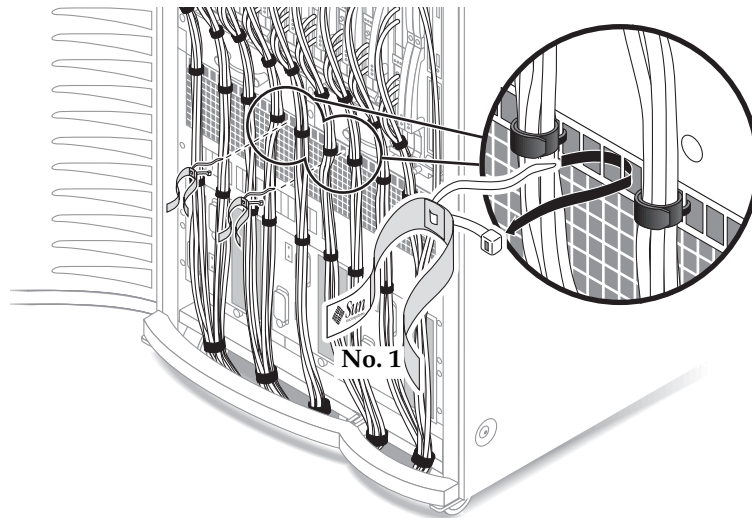

FIGURE 1-3 Green Cable Hanger Strap With Tie Wrap at Air Plenum
10. **At the center of the air plenum cutouts, secure two green cable hanger straps (No. 1), with tie wrap to the cutouts of the air plenum (FIGURE 1-3).**